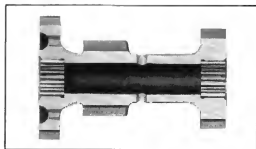

Fig. 11—Countershaft Roller Bearings
1. Coat the roller bearing area in each end of the gear with cup grease. Insert countershaft in the gear, and place gear and shaft on the bench with the large diameter end of the shaft down. Insert twenty-five rollers in this end of the gear, then reverse the position of the counter gear on the bench and insert twenty-five rollers at the opposite end as shown in Fig. 11. Remove countershaft (note that the rollers remain in place and flush with the ends of the gear).